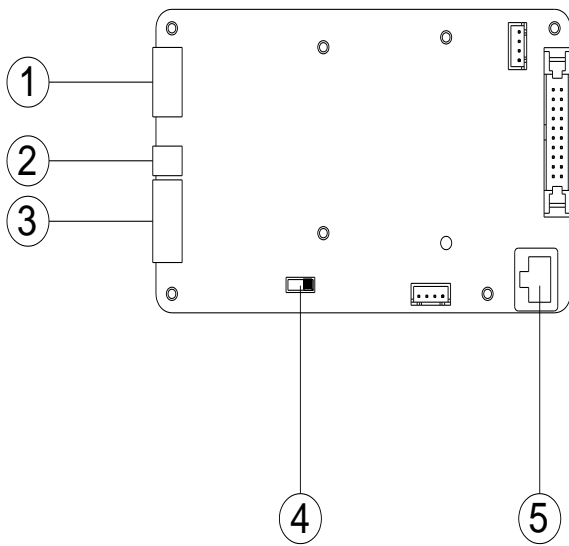
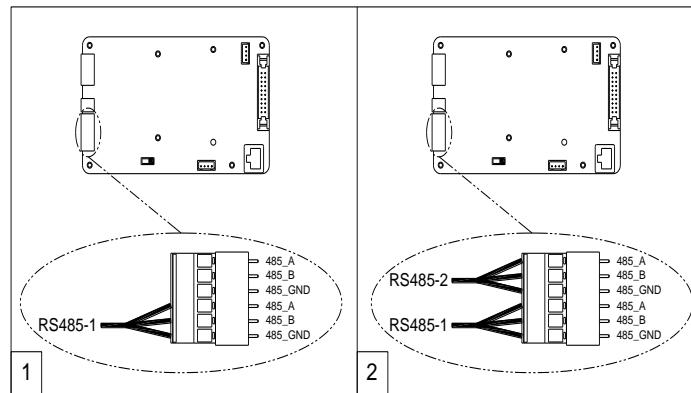

Figure 3-27 Communication Board Connections
Figure 3-28 Connection of Single (1) and Multiple Inverters (2)
It is recommended that industrial-grade shielded RS-485 cable be used in lieu of unshielded twisted pair. RS-485 communication cables are connected via the 6-pin connector to the port labeled (2) in Figure 3-27. When creating a network of multiple inverters, the cables are terminated to the same 6-pin connector and 6-pin connector. Figure 3-28 shows a single inverter communication connection in (1) and a network configuration in (2).